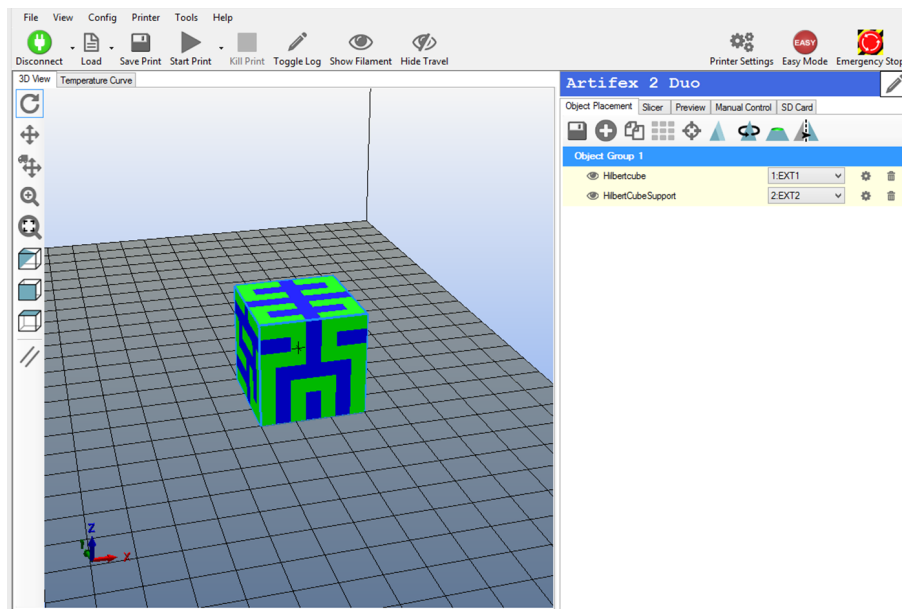

Figure 6.19: Loading the model of Hilbert Cube into Repetier-Host
- First, download the model files, *HilbertCube.stl* and *HilbertCubeSupport.stl*, from our website. Then, follow the instructions in Section 6.3 to load both models into Repetier-Host, merge them into one group, and assign the appropriate extruder for each model (Figure 6.19). In this example, Extruder 1 was used for the model using ABS filament, and Extruder 2 for the support structure using HIPS filament.